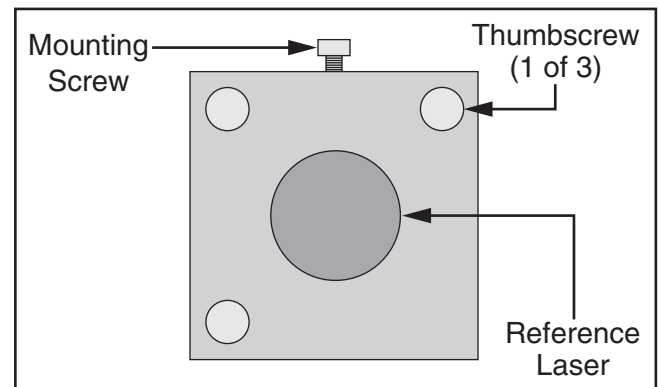

Figure 135. Reference laser adjustment.
4. Locate (3) thumbscrews behind reference laser used to adjust beam path through cabinet (see **Figure 135**).